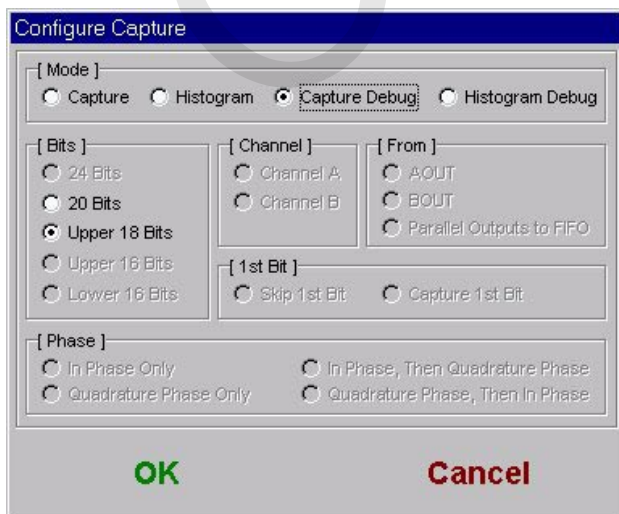

Figure 31 Capture Configuration Dialog, Debug Port
12. Use the right mouse button to access the **Configure Capture** screen of the Data Capture Board software and choose **Capture Debug** within the **Mode** box. Then choose **Upper 18 Bits** within the **Bits** box. Press **OK**. The screen should appear as in Figure 31.
- On the **Configure Capture** screen of the Data Capture Board software, choose **Capture Debug** within the **Mode** box and **18 Bits** from the **Bits** box (see Figure 31). Click on **OK**.